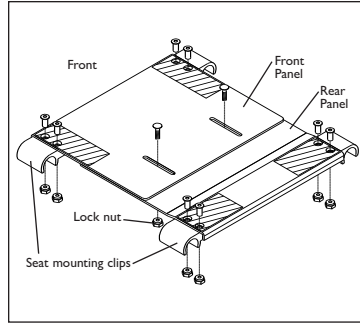

Figure 1
- a) To remove, grasp front of seat pan where indicated in Figure 1 and firmly pull upward until seat mounting clips disengage from the frame.
- a) Remove the two screws that secure each seat mounting clip to the seat pan (Figure 1).
- a) Loosen the two lock nuts on under side of seat pan that attaches front seat pan panel to rear seat pan panel (Figure 1).